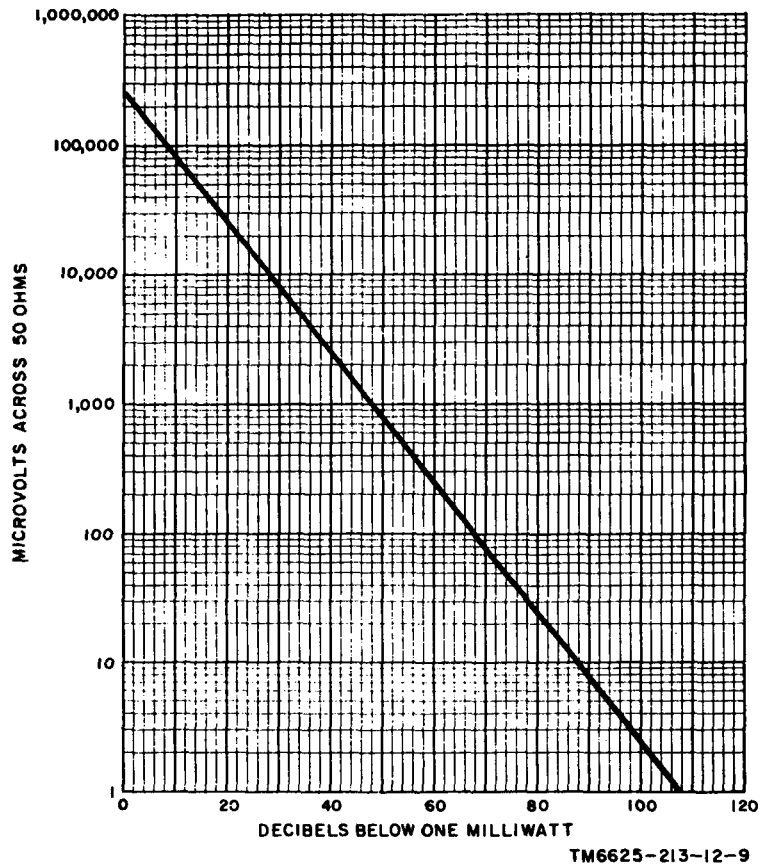

Figure 9. Conversion chart, -dbm to microvlts across 50 ohms.
- (14) Rotate the OUTPUT POWER dial on the test set counterclockwise until the audible signal begins to distort. Note the reading of the OUTPUT POWER dial. This reading is the sensitivity of the rawin set in -dbm. To convert the reading from -dbm to microvolts across a 50-ohm load, refer to figure 9.
- (4) Rotate the test set OUTPUT POWER dial counterclockwise until the pulses on the oscilloscope just disappear. Note the reading on the OUTPUT POWER dial. This reading is the sensitivity of the rawin receiver in -dbm. To convert the reading from -dbm to microvolts across a 50-ohm 10 ad, refer to figure 9.